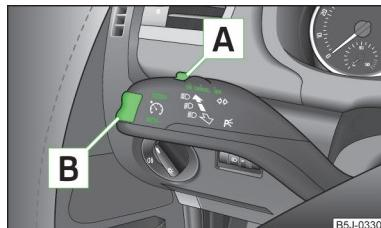

Fig. 114
- Press switch **A** » Fig. 114 to the ON position.
- Press rocker button **B** » Fig. 114 on page 118 to the RES position.
- The stored speed can be **reduced** by pressing rocker button **B** » Fig. 114 on page 118 to the **SET** position.
The cruise control system can be **temporarily switched off** by pushing switch **A** » Fig. 114 on page 118 to the spring-loaded **CANCEL** position or by depressing the brake or clutch pedal.
► Press switch **A** » Fig. 114 on page 118 to the right to the **OFF** position.